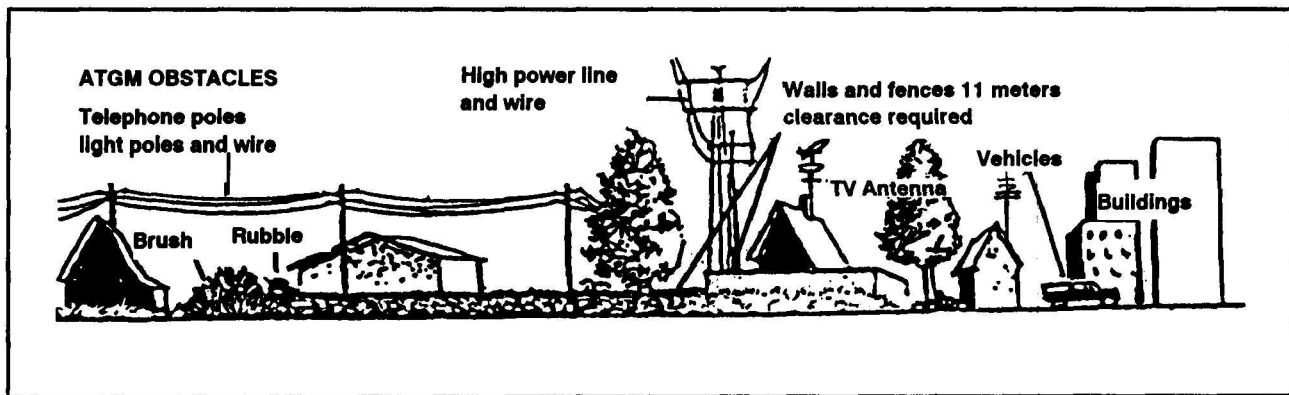

Figure 8-9. Common obstacles to ATGM flights.
(1) **Obstacles.** When fired from street level, rubble or other obstacles could interfere with missile flight. At least 3.5 feet (1 meter) of vertical clearance over such obstacles must be maintained. Figure 8-9, page 8-20 shows the most common obstacles to ATGM flights found in built-up areas. Power lines are a special obstacle that present a unique threat to ATGM gunners. If the power in the lines has not been interrupted, the ATGM guidance wires could create a short circuit. This would allow extremely high voltage to pass to the gunner in the brief period before the guidance wires melted. This voltage could either damage the sight and guidance system, or injure the gunner. Before any ATGM is fired over a power line, an attempt must be made to determine whether or not the power has been interrupted.